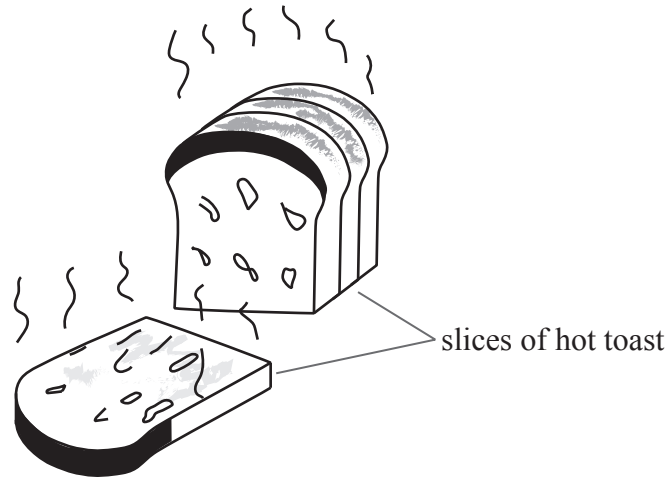

Fig. 1
- 1** **Figure 1** shows slices of hot toasted bread.